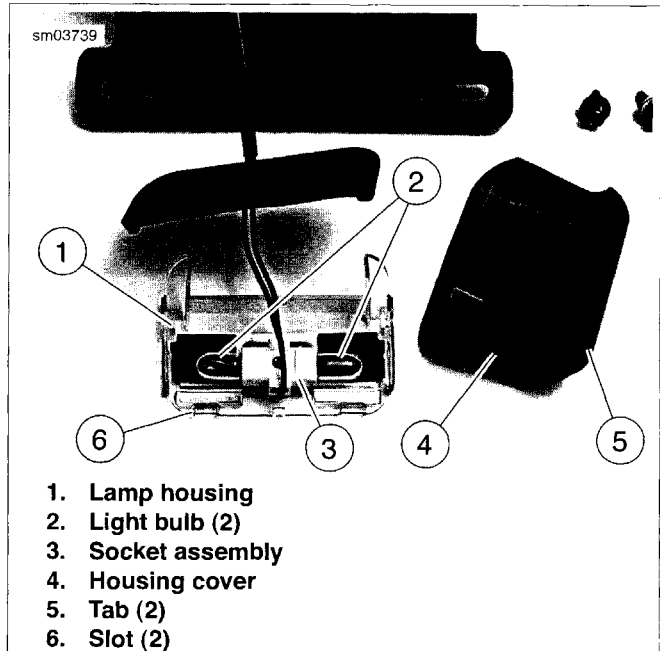

**Figure 6-77. Lamp Housing Separated from License Plate Holder: XL 883N/XL 1200N (HDI)**
8. See Figure 6-76. Remove two screws with washers (2) securing license plate lamp housing to license plate holder (1). See Figure 6-77. Separate lamp housing (3) and gasket (2) from license plate holder (1).
2. See Figure 6-77. Fit gasket (2) onto lamp housing (3).